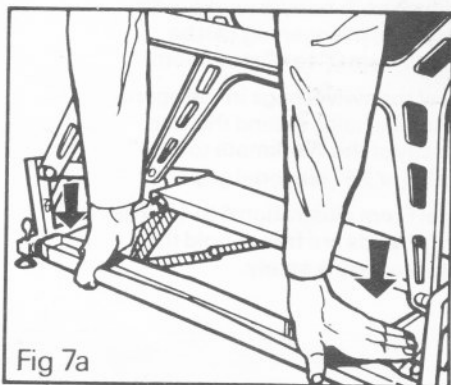
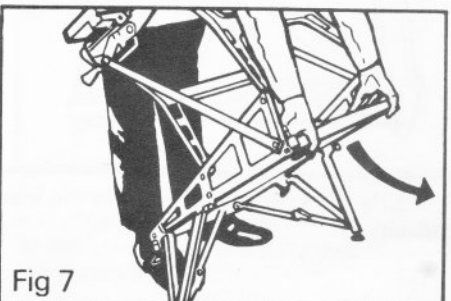

Fig 7a
Fig 7
- 7 Tilt the Workmate towards you on its front feet, reach over the vise bars and open rear feet by applying pressure to both sides of the rear leg simultaneously, see Fig. 7 — recommended hand position is shown in Fig. 7a. Again ensure that the leg support struts are fully extended as for the front legs.